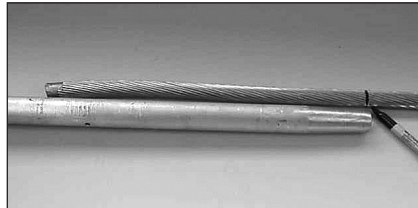

FIGURE 1: Mark the conductor and clean $\frac{1}{2}$ the length of the sleeve.
1. Mark the conductor a distance of $\frac{1}{2}$ the length of the aluminum sleeve (**Figure 1**).